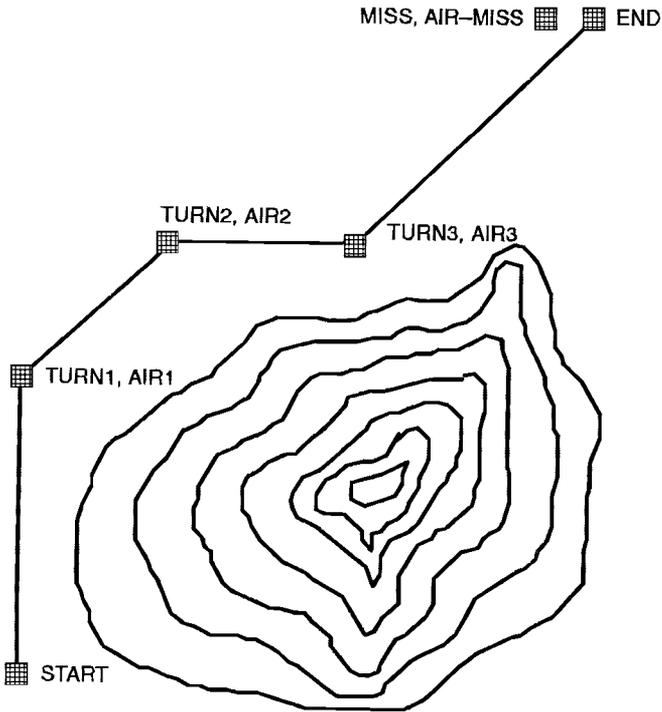

Figure 13-5 Training Mode Course.
- a. The PLGR operating modes called *training (2dTNG and 3dTNG) simulate* tracking satellites and movement along a course near Yuma, Arizona. The waypoints entered in Lesson 2 are at or near this course (see Figure 13-5).